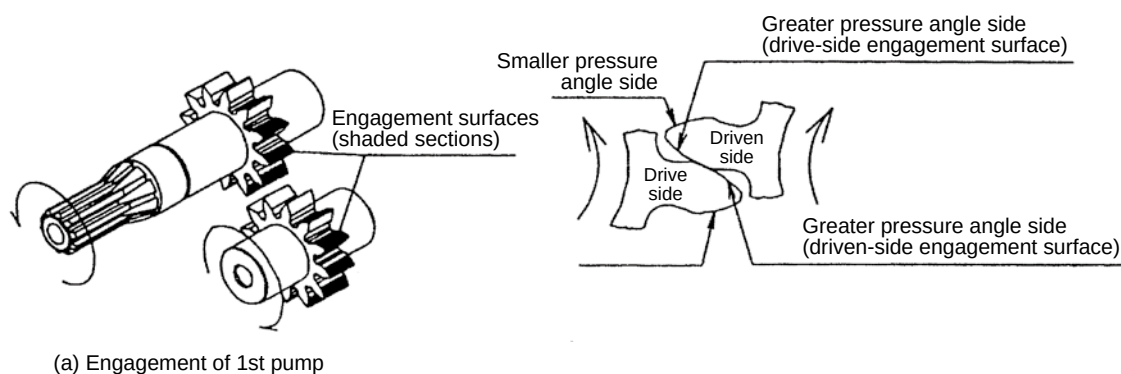

Fig. 7.39
- ⑦ Install the drive gear in the pump body, as shown in Figure 7.39.